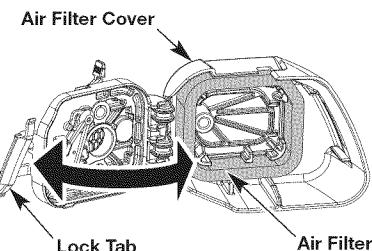

Fig. 22
1. Open the air filter cover by pressing the lock tab and pulling out on the air filter cover (Fig. 22).
2. Remove the air filter (Fig. 22).
6. Replace the air filter into the air filter cover (Fig. 22).
7. Close the air filter cover by swinging it to the left and then pressing it down until the lock tab snaps into place (Fig. 22).